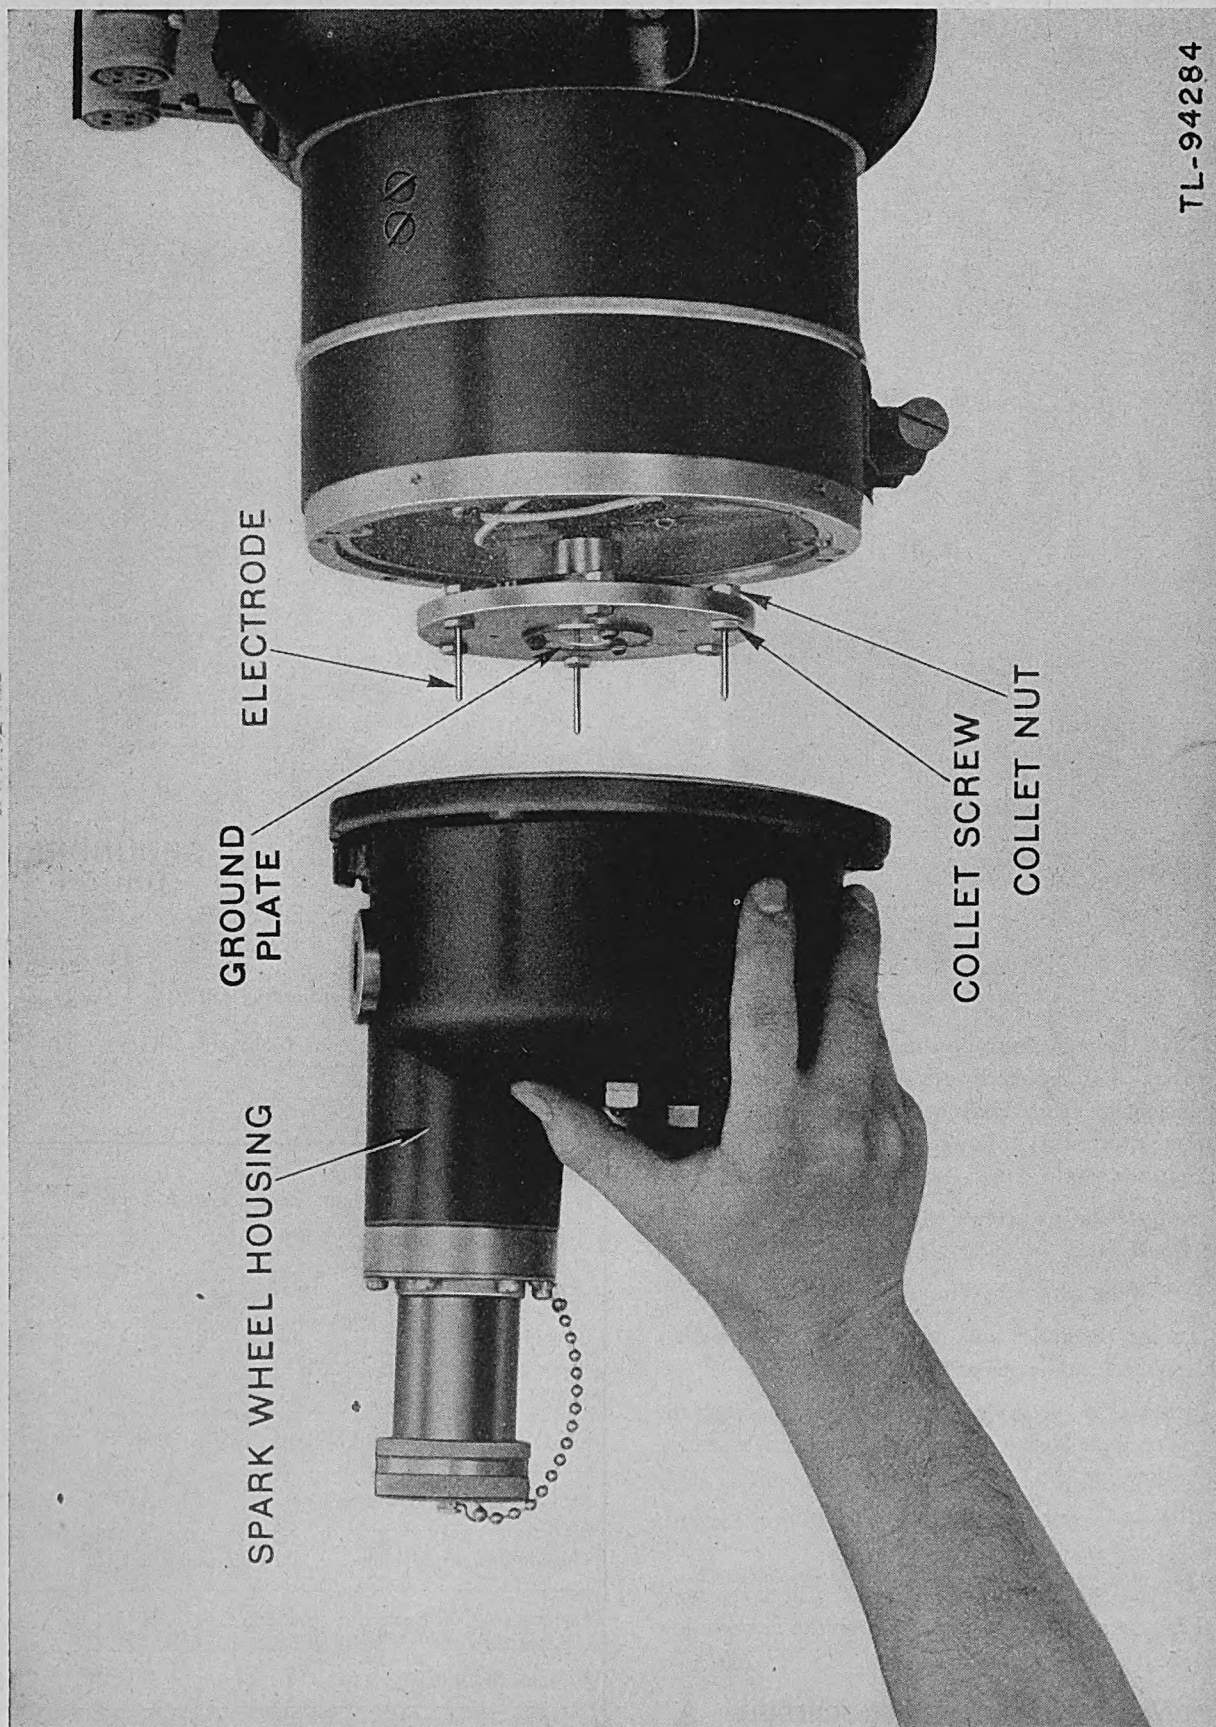

Figure 5. Inspecting electrodes.
17. SPARK WHEEL ELECTRODES (fig. 5).
- c. Lift off the spark wheel housing as shown in figure 5.
(l) Remove the six screws holding the spark wheel housing to the brush head (fig. 5). Lift off the spark wheel housing (to be treated).
a. Removing Spark Wheel Housing (fig. 5). Take out the six screws in the clamp ring, holding the spark wheel housing to the brush head. Then remove the complete housing.